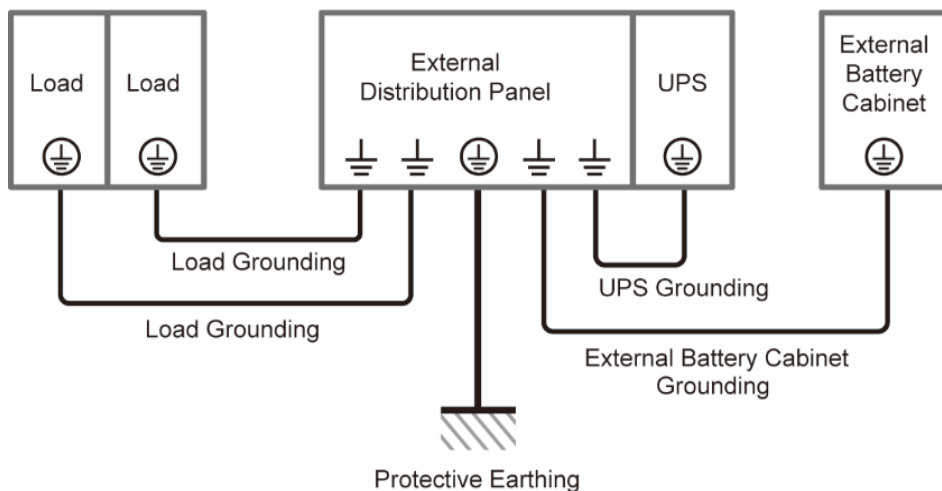
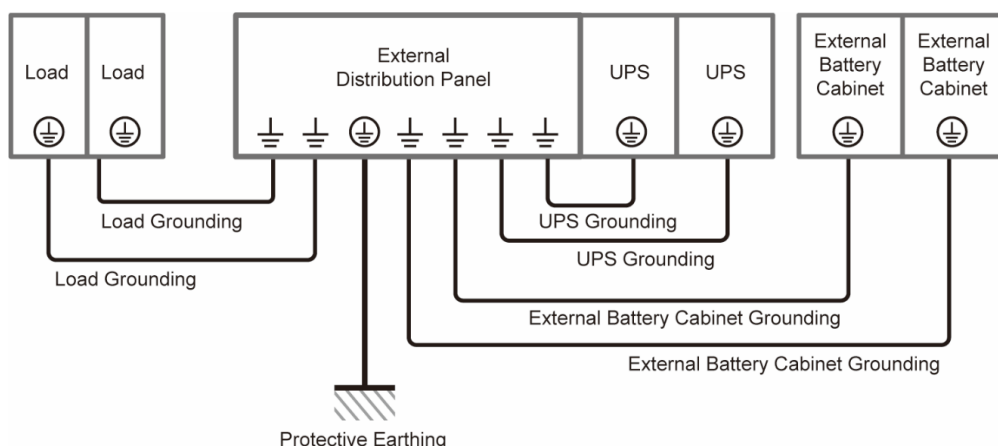

Figure 5-13: Grounding Diagram_ Single Unit
Figure 5-16: Grounding Diagram_ Parallel Units
Refer to **Figure 5-13** to ground the UPS, external battery cabinet(s) and connected critical loads.
- For the external battery cabinet's grounding information, please refer to **Figure 5-13** and **Figure 5-16**.